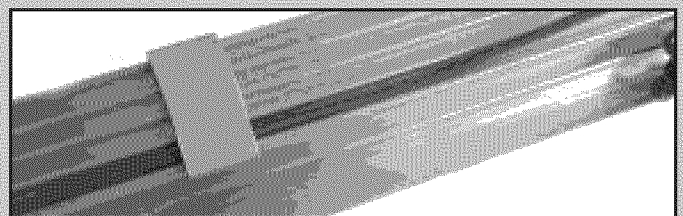

FIG. 1-13 Wire clips.
- Use wire clips to hold wires in place (Fig. 1-13).